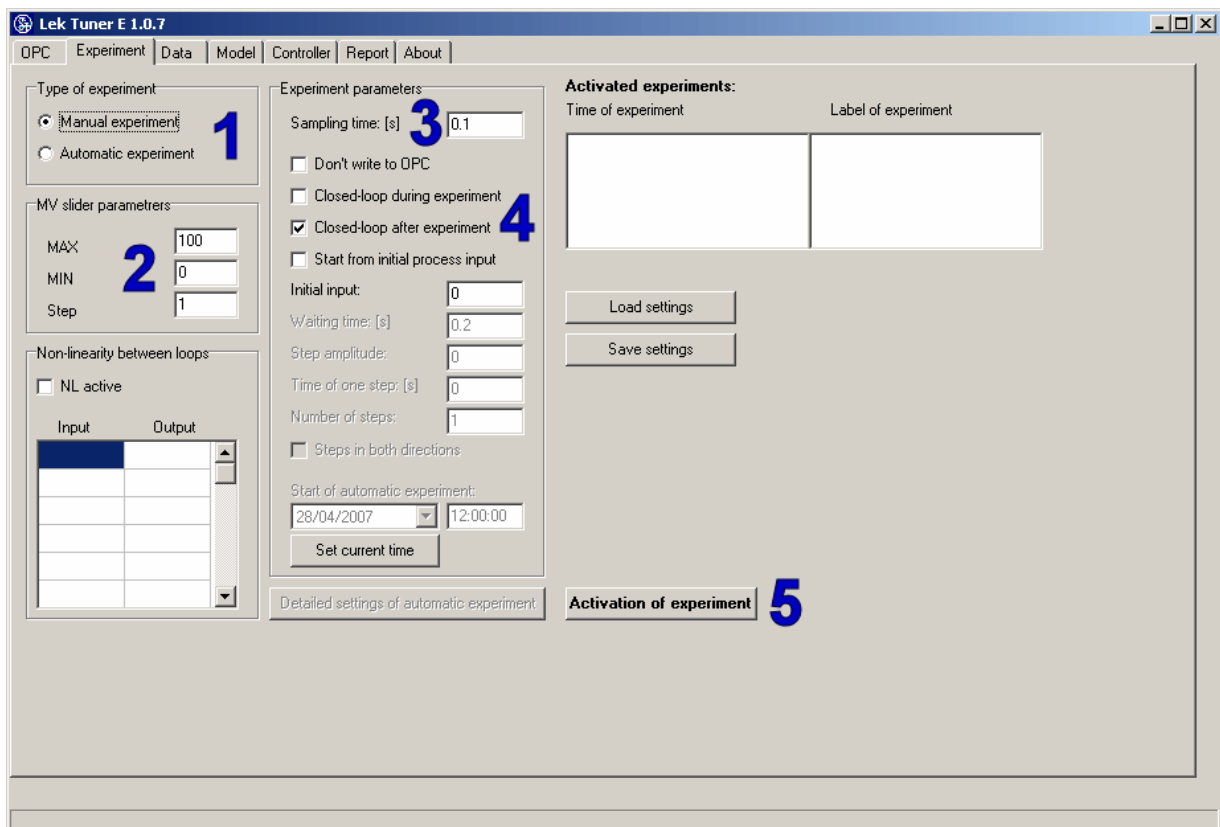
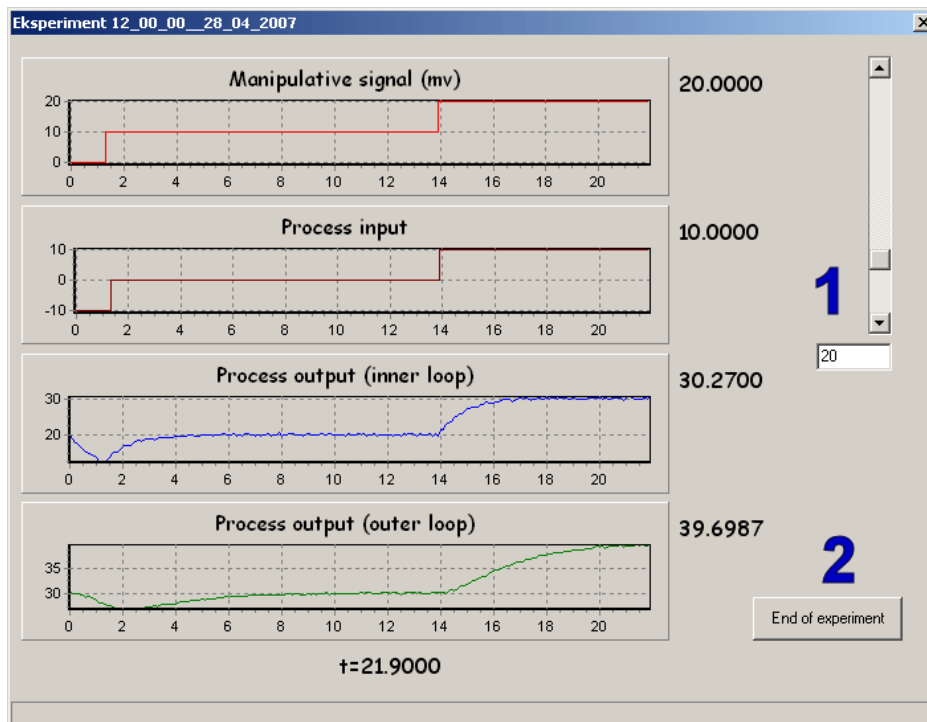

Figure 12. Window experiment data after entering parameters.
Figure 13. Window experiment during run of experiment.
Then we press tab “Experiment” and enter experiment parameters, as shown in Figure 12. First we choose manual experiment (1). Sampling time (3) is chosen so as to be at least 10-20 times shorter than process main time constant. A checkbox “Close-loop after experiment” (4) is checked so that LEK Tuner switches controller into the closed-loop configuration when experiment is finished. Experiment is executed by pressing button “Activation of Experiment” (5).
First configuration data is saved, then experiment is performed. Window “Experiment” opens (Figure 13). Process steady-state point can be modified by adjusting slider position (1). The slider changes the value of manipulative variable. Slider limits are previously set in window “Experiment” (Figure 12, (2)). Experiment is terminated by pressing button “End of experiment” (2).